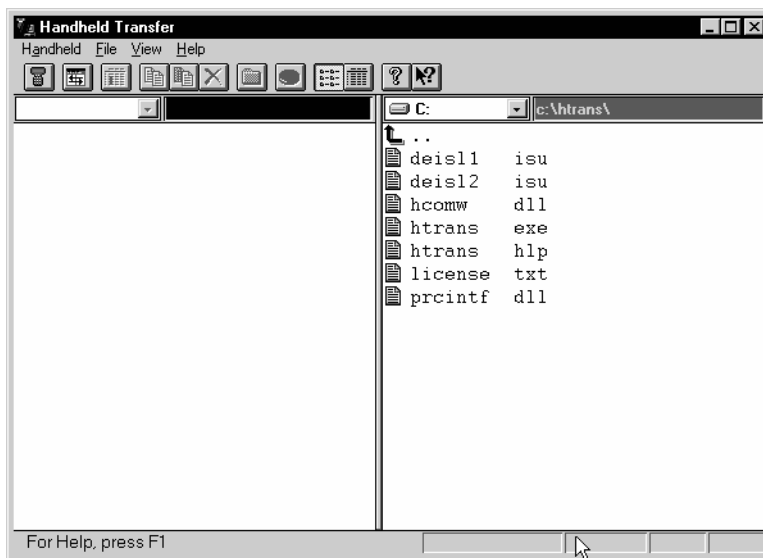

Figure A.4. Handheld Transfer Main Window
1. Double-click the **Handheld Transfer** icon on the PC to open the main window (Figure A.4).